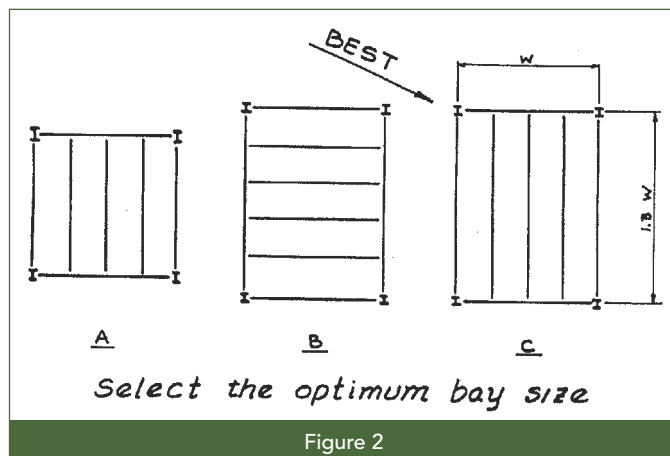

Figure 2
**Select optimum bay sizes.** An exhaustive study by John Ruddy, P.E., formerly of Structural Affiliates International in Nashville and now with AISC (*AISC Engineering Journal*, Vol. 20, No. 3, 1983), indicated that a rectangular bay with a length-to-width ratio of approximately 1.25 to 1.50 was the most efficient. The filler members should span in the long direction with the girder beams in the short direction (see Figure 2).